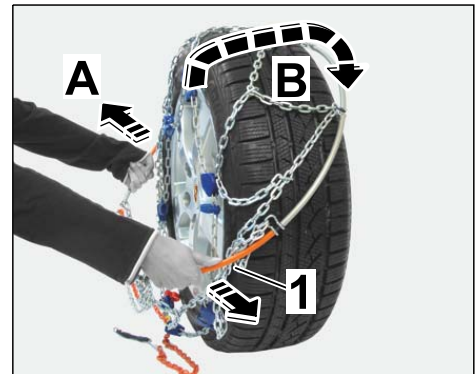

Figure 5
- 2.1.3 Pull the ends of the spring steel clip the maximum distance apart (⇒ *Figure 5-A-*).
Guide snow chain over the wheel from above (⇒ *Figure 5-B-*).